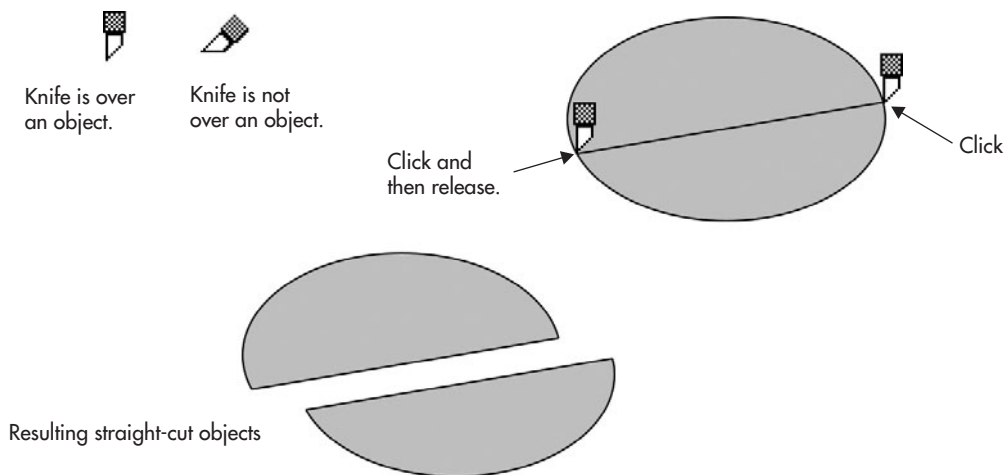

FIGURE 11-5 Click, release, then click to create a Knife tool straight cut.
- **Straight cuts** Suppose you want to slice an object into two separate shapes as you'd do with a workshop saw. To produce straight lines on sides of both objects, you aim the cursor on the near side of the object, hover until you see it change from an angled cursor to an upright one, click, release the mouse button, and then click the far side of the object, as shown in Figure 11-5.